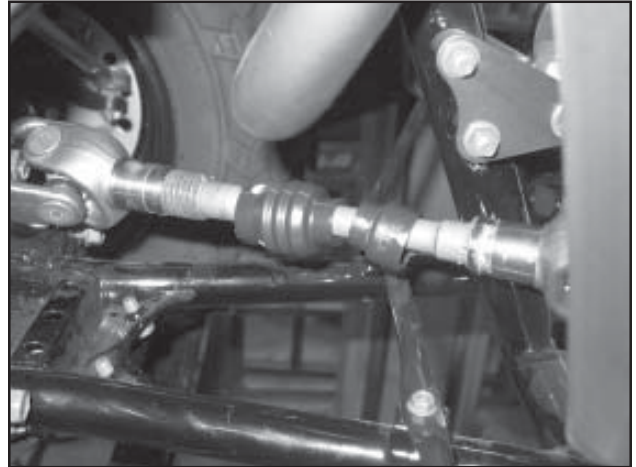

Figure 5 Stock Prop-Shaft
4. CAREFULLY slide the protective boots to expose the U-joint connection and retaining rings on each end of the shaft **Figure 5**. The boots will be re-used on the new 424 Select unit.